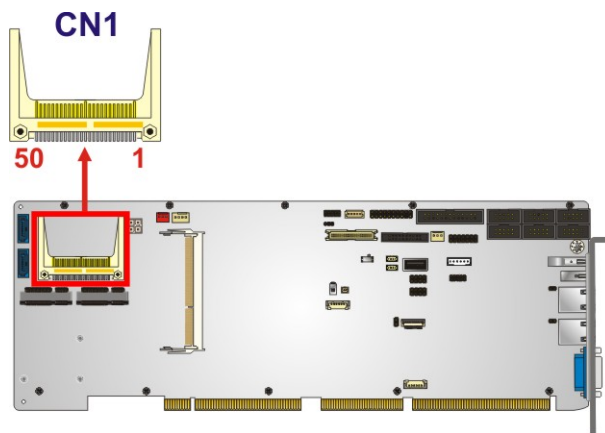

Figure 3-8: CF Type II Slot Location
- CN Location:** See **Figure 3-8**